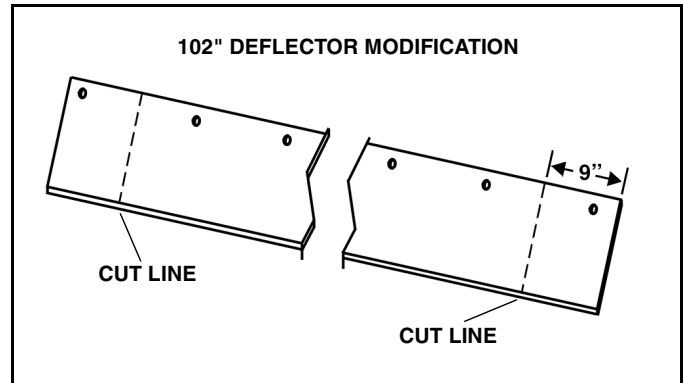

Figure 1-2
1. To shorten to a 102" deflector, remove 9" from both ends of deflector. (See fig. 1-2)